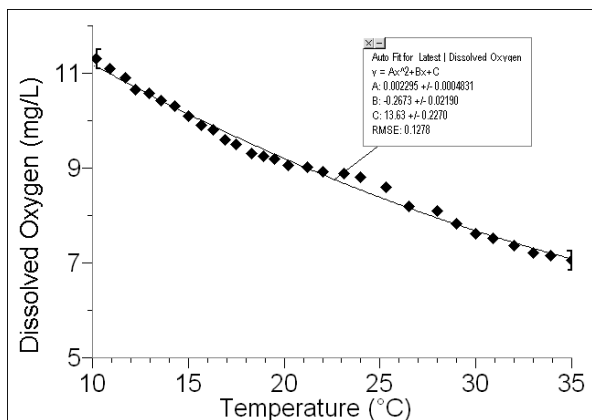

Figure 2 Saturated dissolved oxygen vs. temperature data
- If, however, the solution was cooled to 10°C and continually stirred so it remained saturated by dissolving additional oxygen, the temperature-compensated probe would give a reading of 11.35 mg/L—the value shown in Figure 2. **Note:** Temperature compensation does not mean that the reading for a saturated solution will be the same at two different temperatures—the two solutions have different concentrations of dissolved oxygen, and the probe reading should reflect this difference.